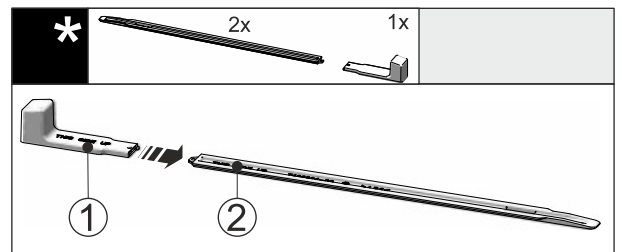

Fig. 50
- Attach the installation handle Fig. 50 (1) to the levelling rail Fig. 50 (2).